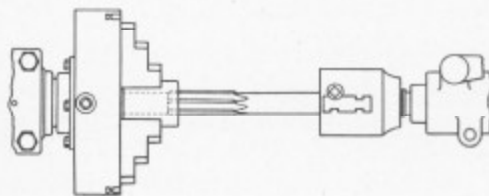

Fig. 131.—Using a Machine Reamer in the Chuck
**Using a Machine Reamer in the Lathe.**—Fig. 131 shows the application of a lathe chuck holding work and a drill chuck in the tailstock spindle holding a machine reamer. The reamer is fed through the work by the tailstock hand wheel.